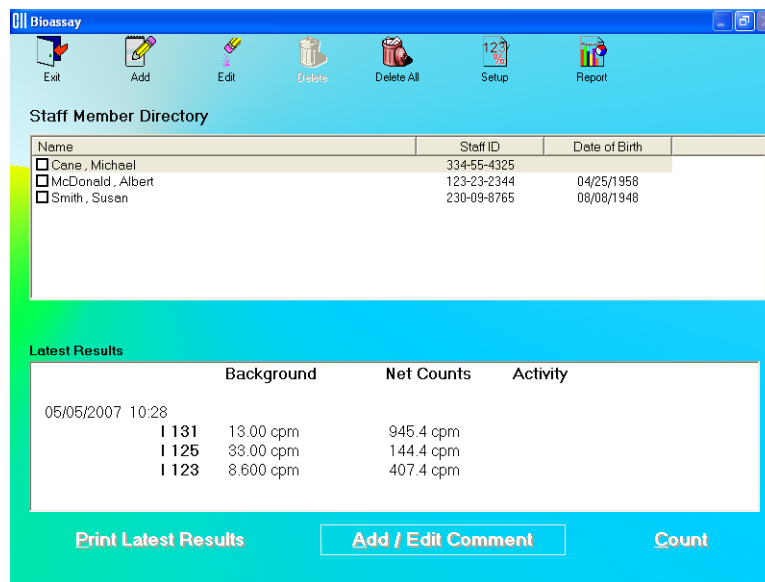

Figure 11-1 Main Bioassay Screen
To access the Bioassay module, click the **Bioassay** button or press *Alt+B* on the CAPTUS® 3000 Main screen. Figure 11-1 Main Bioassay Screen will appear. The **Staff Member Directory** box will be empty if there are currently no existing staff members in the database. Added staff members will appear in this box with their name, the Staff ID and date of birth. By default, the first record is selected. The **Latest Results** box below shows the results of the most recent measurements performed on the selected staff member. The icons at the top of the screen provide functions to add, edit or delete data, to change measurement setup and to view test reports.
1. Click the  icon on Figure 11-1 Main Bioassay Screen. The Setup screen appears as shown in Figure 11-2.
- Click the  icon on Figure 11-1 Main Bioassay Screen. The screen appears as shown in Figure 11-12.